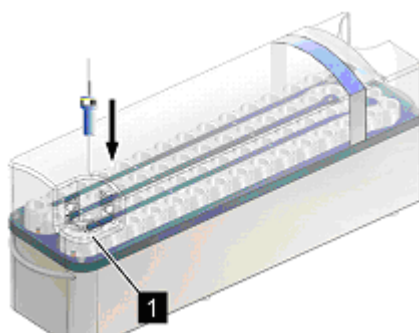

Figure 9.14 Operator Access Position
4. Insert the sample into the **Operator Access Position** (Figure 9.14/1).